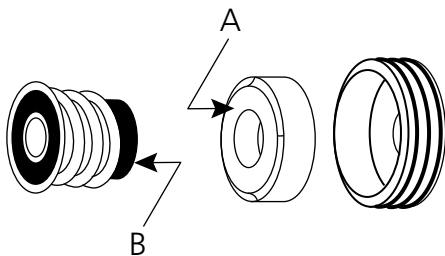

Figure 53: Seal Orientation
3. Assemble pump with all parts in order as shown in Fig. 54 through Fig. 56. The ceramic seal and the spring seal must be fitted as shown in Fig. 53 with the hard side of the spring seal (B) against the ceramic seal face (A).